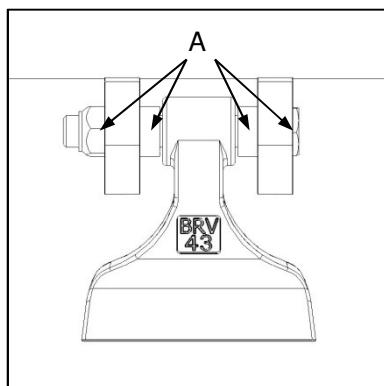
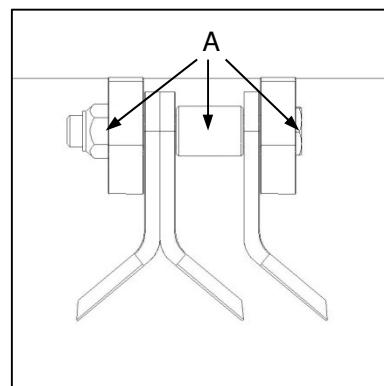

Fig. 8
Fig. 9
- ✓ Replace all associated mounting hardware when fitting new hammers or blades. This should include blade bolts, bushes and nuts (Fig. 8-A / Fig. 9-A).
- ✓ Vervang al die betrokke monteringsonderdele wanneer nuwe hamers of lemme aangebring word. Dit moet lemboute, -busse en -moere insluit (Fig. 8-A en Fig. 9-A).